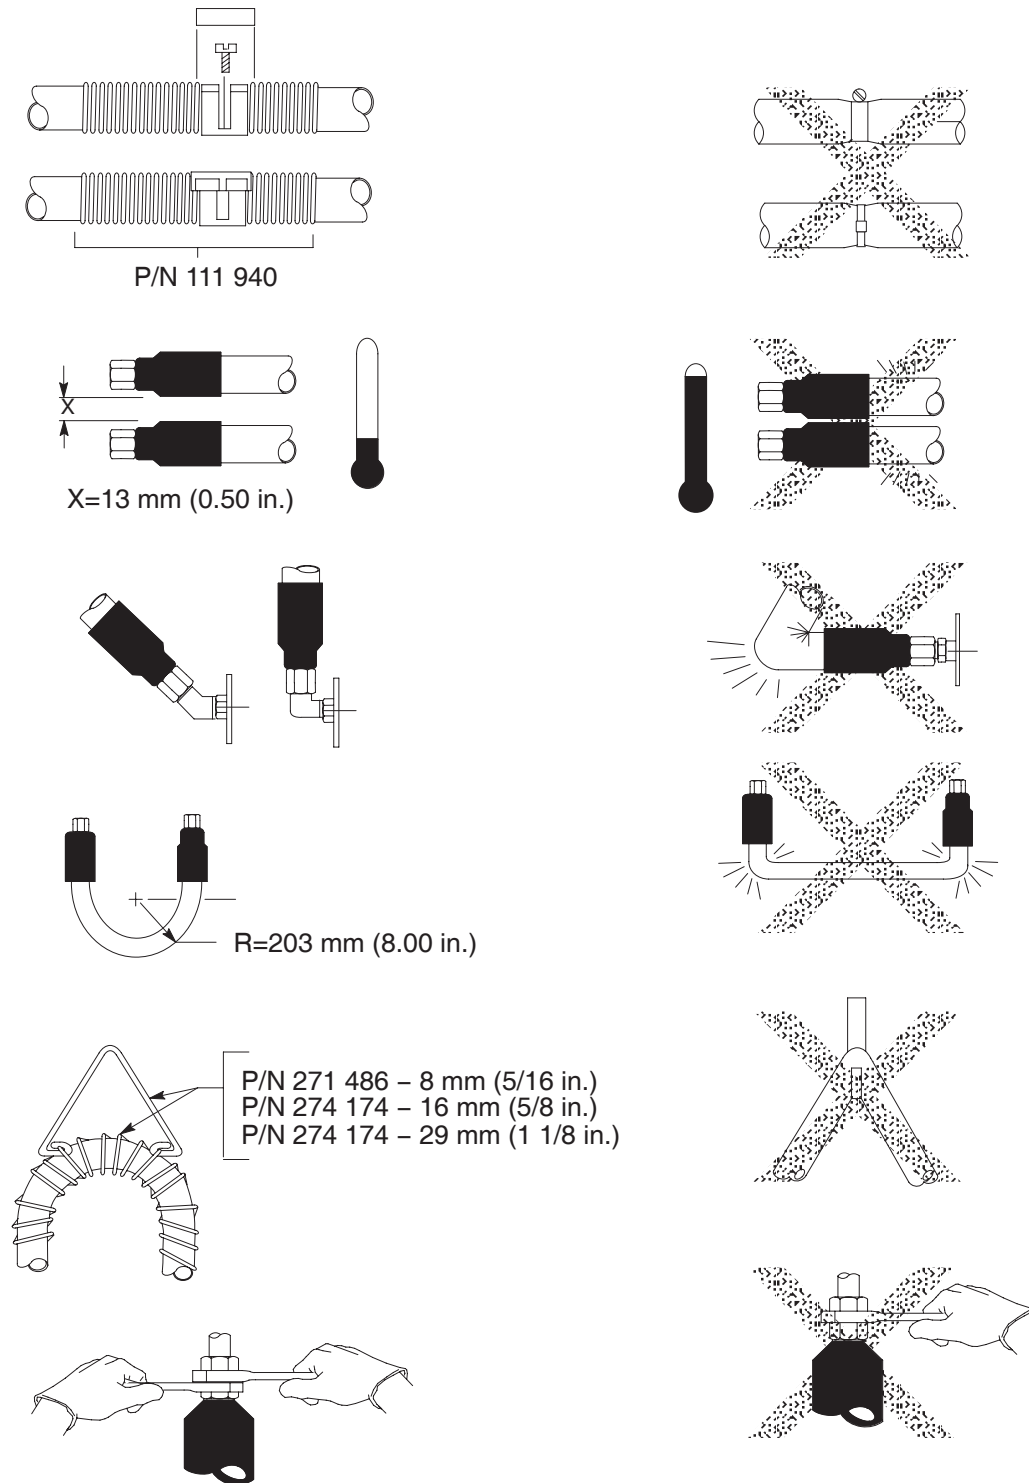

Figure 3-3 Hose installation guidelines
- will allow you to properly route hoses (see Figure 3-3)
Throughout the hose installation process, follow the guidelines shown in Figure 3-3.